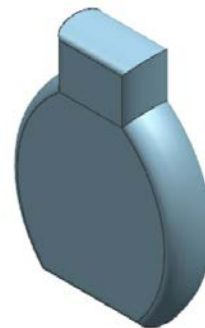

Figure 11-54 Resulting bridge surface
3. Select the **G0 (Position)** option from the **Edge 1** and **Edge 2** drop-down lists in the **Continuity** sub-rollout available in the **Constraints** rollout. Next, choose the **OK** button. The surface created using the **Bridge** tool is shown in Figure 11-54.